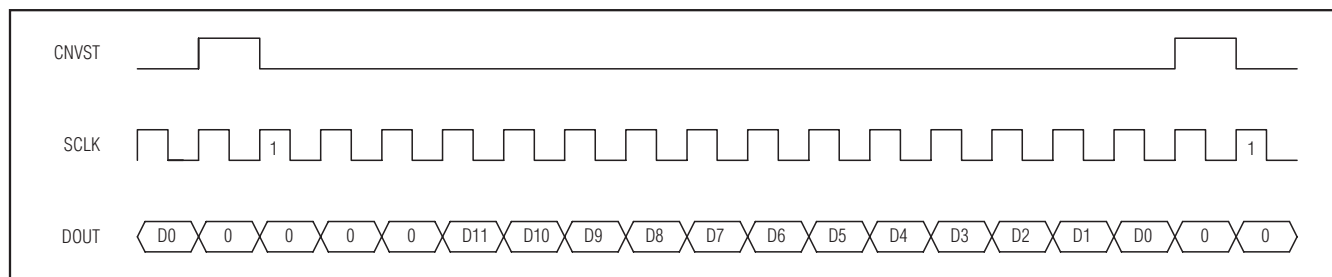
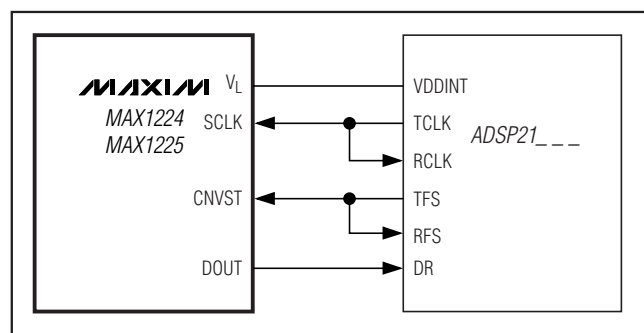

Figure 17. DSP Interface—Continuous Conversion
Figure 19. Interfacing to the ADSP21_ _ _
The MAX1224/MAX1225 can also be connected to the TMS320C54 by using the data transmit (DX) pin to drive CNVST and the CLKX generated internally to drive SCLK. A pullup resistor is required on the CNVST signal to keep it high when DX goes high impedance and 0001hex should be written to the DXR continuously for continuous conversions. The power-down modes may be entered by writing 00FFhex to the DXR (see Figures 17 and 18).
The MAX1224/MAX1225 can be directly connected to the ADSP21_ _ _ family of DSPs from Analog Devices, Inc. Figure 19 shows the direct connection of the MAX1224/MAX1225 to the ADSP21_ _ _. There are two modes of operation that can be programmed to interface with the MAX1224/MAX1225. For continuous conversions, idle CNVST low and pulse it high for one clock cycle during the LSB of the previous transmitted word. The ADSP21_ _ _ STCTL and SRCTL registers should be configured for early framing (LAFR = 0) and for an active-high frame (LTFS = 0, LRFS = 0) signal. In this mode, the data-independent frame-sync bit (DITFS = 1) can be selected to eliminate the need for writing to the transmit-data register more than once. For single conversions, idle CNVST high and pulse it low for the entire conversion. The ADSP21_ _ _ STCTL and SRCTL registers should be configured for late framing (LAFR = 1) and for an active-low frame (LTFS = 1, LRFS = 1) signal. This is also the best way to enter the power-down modes by setting the word length to 8 bits (SLEN = 1001). Connect the V_L pin to the ADSP21_ _ _ supply voltage when the MAX1224/MAX1225 are operating with a supply voltage higher than the DSP supply voltage (see Figures 17 and 18).